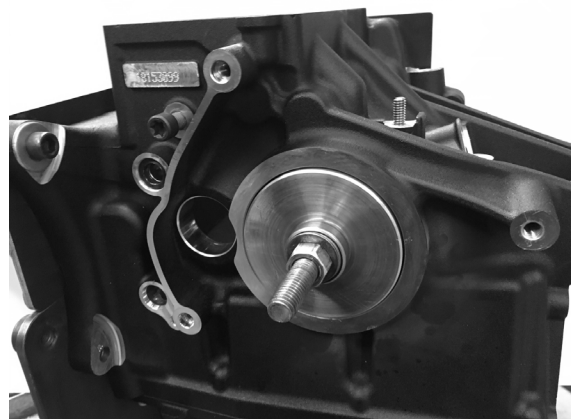

FIGURE 14 | TAPERED BEARING ADAPTER FULLY SEATED IN CASE
6. Immediately after the case is heated, tighten the tool nut to draw the tapered bearing adapter into the case. This operation must be done quickly with no interruptions while the case is hot. If the support plate on the other side of the case starts to bend, stop, loosen the nut slightly, and reheat the case. The aluminum cup should be about flush with the bearing boss when the tapered bearing adapter is fully seated; see figure 14.